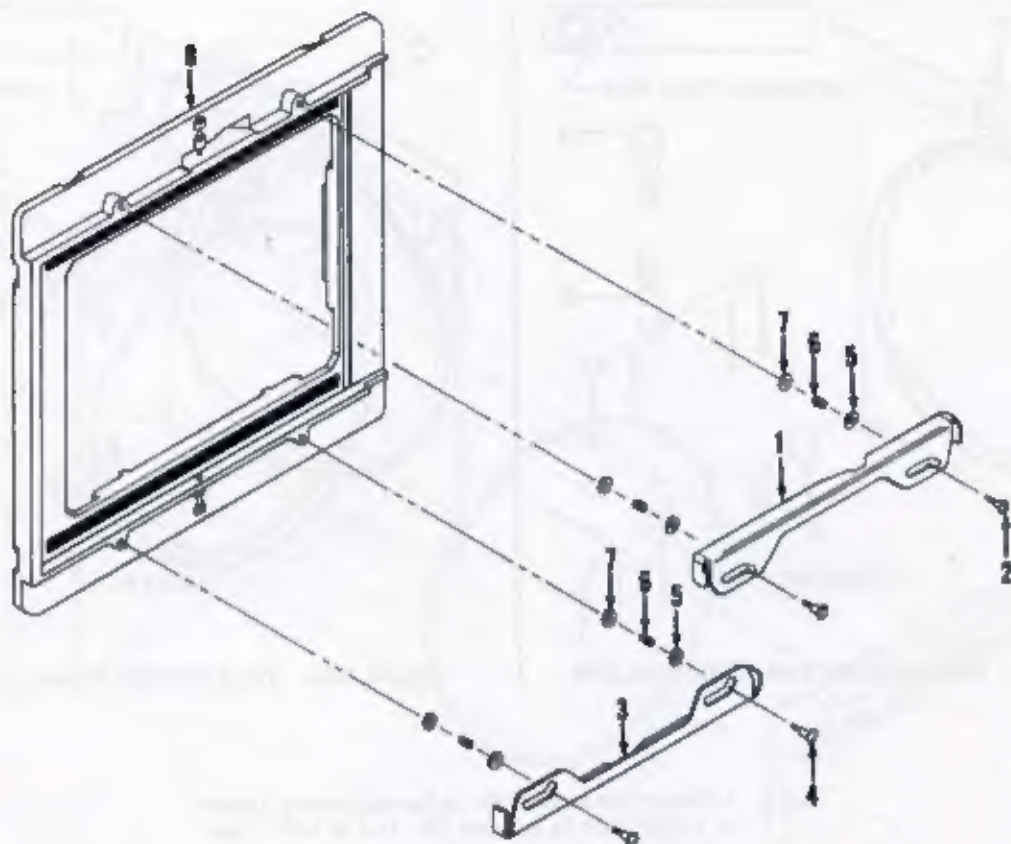

Figure 12C. REVOLVING FRAME COMPLETE
X. 2. REVOLVING FRAME COMPLETE - DISASSEMBLY AND REASSEMBLY (Figure 12C)
a. Remove two machine screws (2), upper slide lock (1), and two each flat washers (6), slide lock springs (6) and flat washers (7).
b. Remove two machine screws (4), lower slide lock (3), and two each flat washers (6), slide lock springs (6) and flat washers (7) from frame assembly